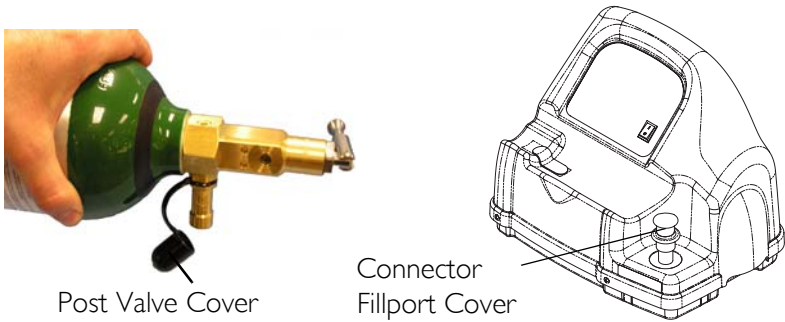

FIGURE 4.3 Fillport Covers
4. Remove the post valve cover (located on the cylinder) and the connector fillport covers (located on the compressor) (FIGURE 4.3).